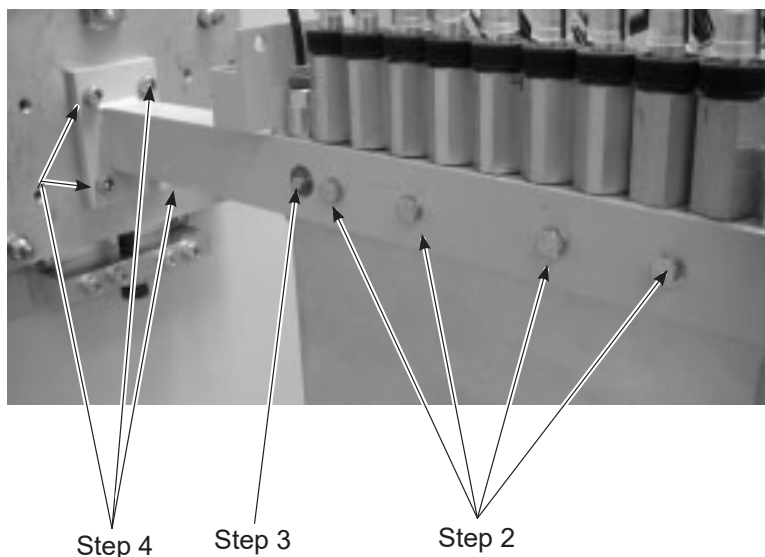

Figure 8-9 Lance Adjustment Steps 2-4
2. See Figure 8-9. Loosen the 8-mm through bolts securing the lance plates to the lance arms.